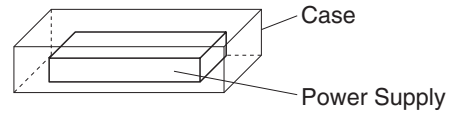

Fig.4.6 Installation example
- There is a possibility that it is not possible to cool enough when the power supply is used by the sealing up space as showing in Figure 4.6. Please use it after confirming the temperature of points ① through ⑤ of section 4.1.